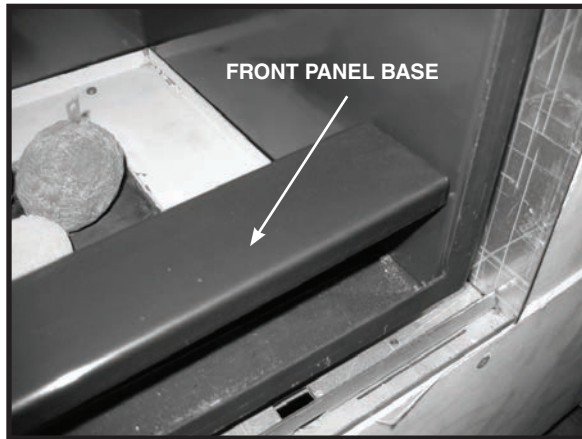

Figure 54: Front panel base.
1. Remove front panel base (Figure 54). Also remove rear panel base if Black Diamond Burner is fitted.